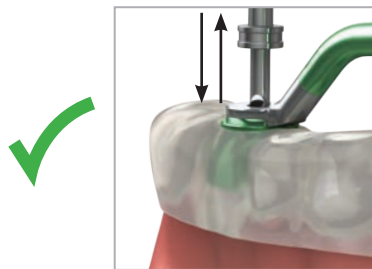

Figure 3
Use an in-and-out pumping action (Figure 3) to help clear flutes and drill guides of any bone debris. Drills should not be completely removed from drill guides or pilot sleeves during pumping. When finally removing drills from master cylinders and drill guides, the drill should not be rotating.
**Avoid applying lateral pressure to the drill guides or pilot sleeves by ensuring the drill path is in line with the drill guide (Figures 3 & 4).**